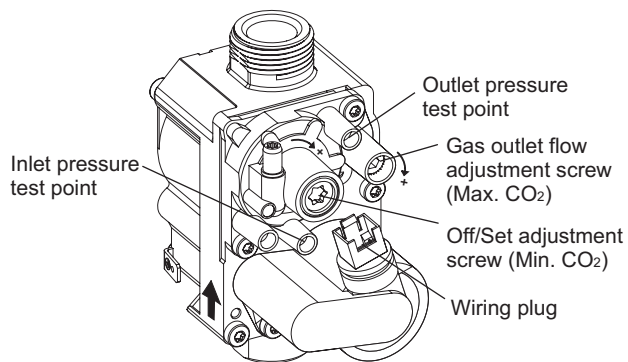
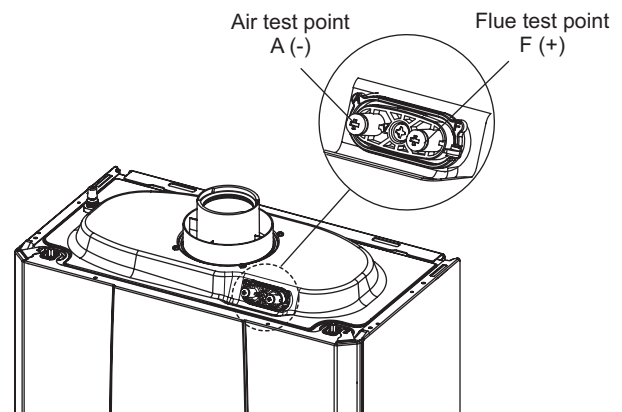

Fig. 6.2
Fig. 6.3
The air gas ratio of the boiler has been factory-set and should not require adjusting during commissioning. If adjustment is recommended or required the engineer must be competent to carry out this work. See Fig. 6.3 for analyser test point.
Refer to Section 6.6 and enter the chimney sweep mode (with no DHW demand) use the DHW down button to set the output to minimum (0%). Insert the analyser probe into the flue test point (Fig. 6.3) and check that the CO2 value is as specified in Section 3.1, otherwise adjust the screw (Fig. 6.2) To increase the CO2 value, turn the adjustment screw in a clockwise direction and vice versa to decrease.
When you finish the minimum CO2 adjustment, while maintaining the chimney sweep function active, use the DHW up button to set the output to maximum (99%). Insert the analyser probe into the flue test point (Fig. 6.3) and check that the CO2 value is as specified in Section 3.1, otherwise adjust the screw (Fig. 6.2). To increase the CO2 value, turn the adjustment screw (Fig. 6.2) in a clockwise direction and vice versa to decrease it.
Connect the flue gas analyser to the flue gas sampling point as shown in Fig. 6.3.
**Notes: 1.** Prior to servicing, it is recommended that a flue gas analyser is used to measure the performance of the boiler (refer to Fig. 6.3 for the position of the flue sampling point). Refer to Section 6.6 Checking combustion. If the CO/CO2 ratio measured is greater than 0.004 **or** when other checks or comments from the customer have indicated that there may be problems, check the following: